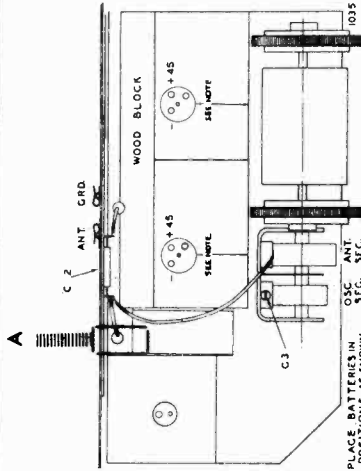

FIG. 2.—REAR VIEW
On the back of the cabinet a small adjustment screw is provided, (see C2, Fig. 2).
**NEXT:**—Tune in a station around 600 Kc. on the dial and adjust adjustment screw (See A, Fig. 2). Both these adjustments are very important for best reception.